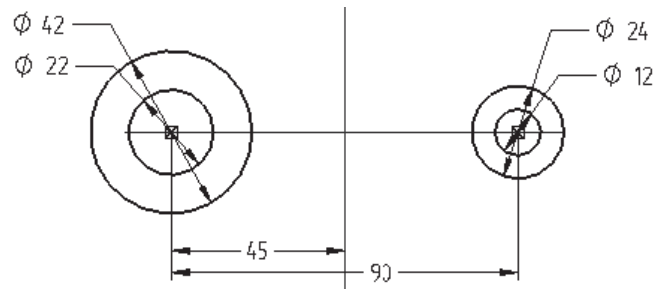

Figure 4-67 Profile for the base feature
- Add the required relationships and dimensions to the sketch, as shown in Figure 4-67.